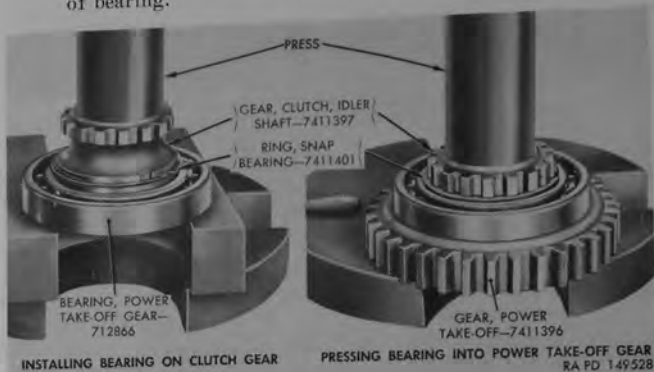

Figure 78. Installing power take-off gear and bearing on clutch gear.
- (1) Install one bearing snap ring (A) on idler shaft clutch gear (B) in groove toward rear end of clutch gear. Support power take-off gear bearing (D) on arbor press plate, position clutch gear on bearing, and press clutch gear into bearing (fig. 78) until snap ring contacts bearing inner race. Install other bearing snap ring (A) in groove at front side of bearing.
- (2) Install one bearing snap ring (C) in groove in power take-off gear (E); then lay gear on press plate with clearance below for clutch gear hub. Position clutch gear and bearing assembly on power take-off gear; then press on clutch gear to force bearing outer race into power take-off gear (fig. 78) until bearing outer race contacts large bearing snap ring (C). Install remaining large bearing snap ring (C) in groove in power take-off gear (E).